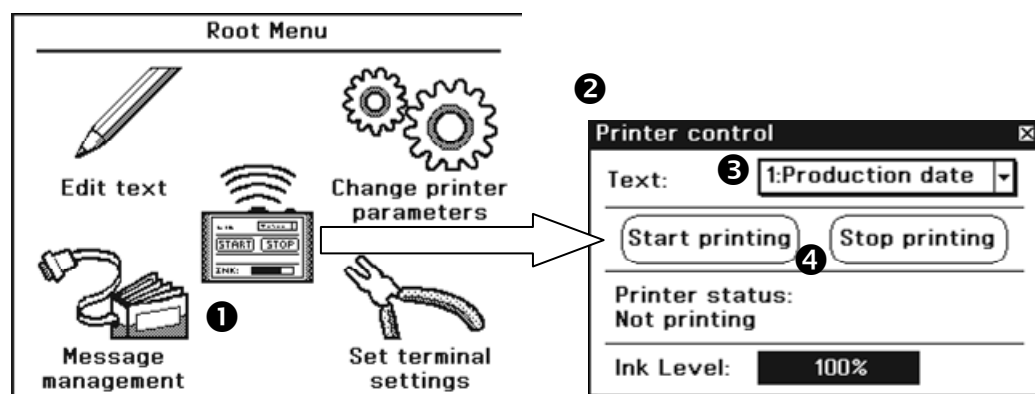

Fig. 6.15
On the **Root Menu** screen, select button ❶ (see Fig. 6.15). The **Printer control** screen (❷) appears on the terminal display. If the information (status and ink level) displayed in that window is correct, select the text (❸) which you wish to print from the drop-down menu, and then press the **Start printing** button (❹). The printer moves to the *print* state and awaits a signal from the photo-detector to start printing.